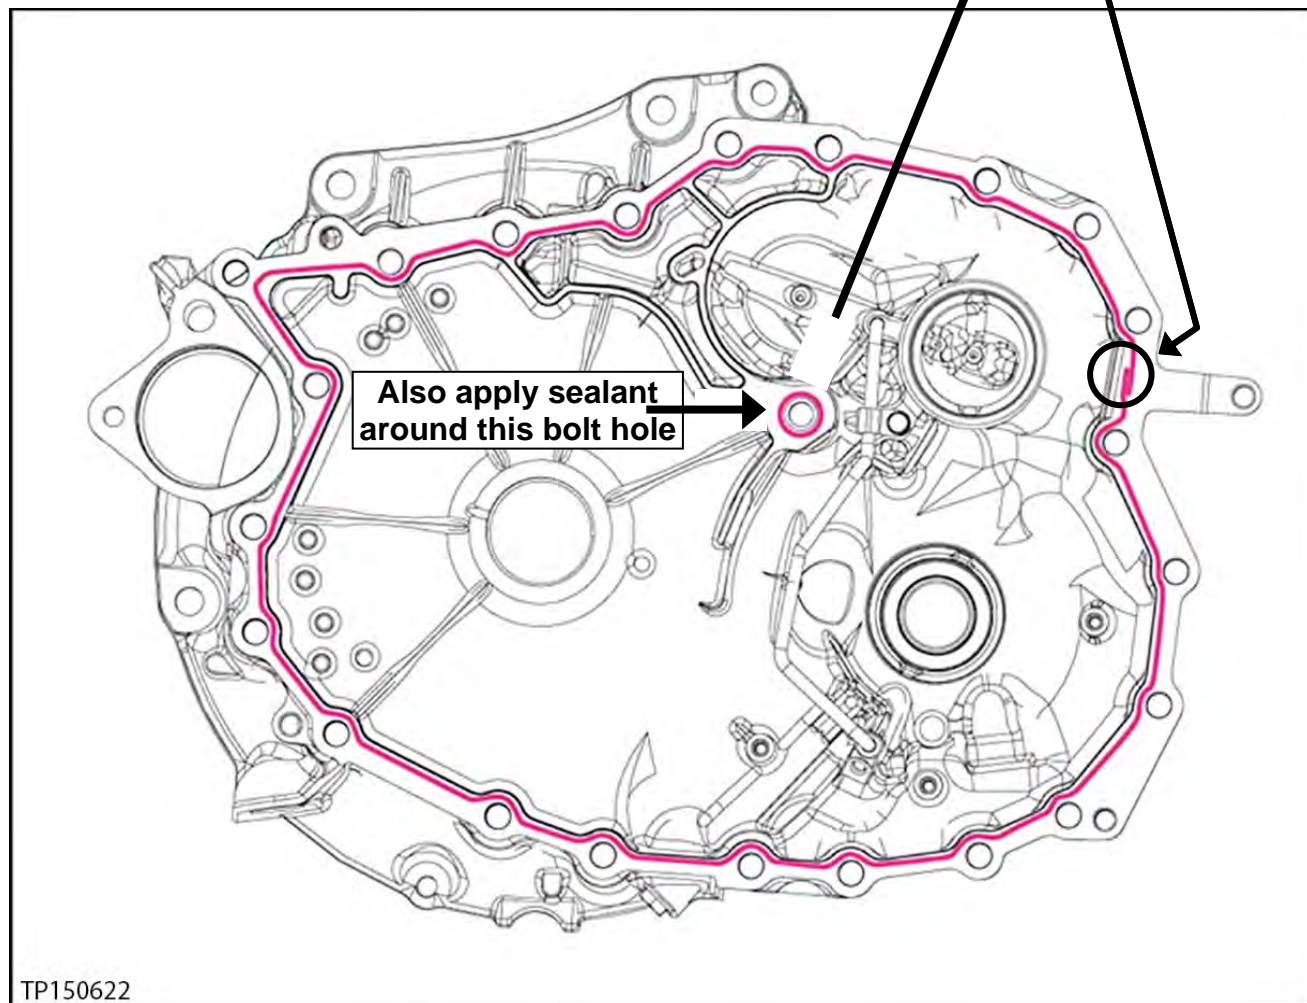

Figure 15I
14. Apply one continuous 2.0 mm (**0.8 inches**) diameter bead (Figure 15I) of pink colored Loctite 5460 Sealant (see the Parts Information section of this bulletin).
- Before sealant application, make sure the mating surfaces are clean from oil, dirt, old sealant, etc. (Figure 15I).